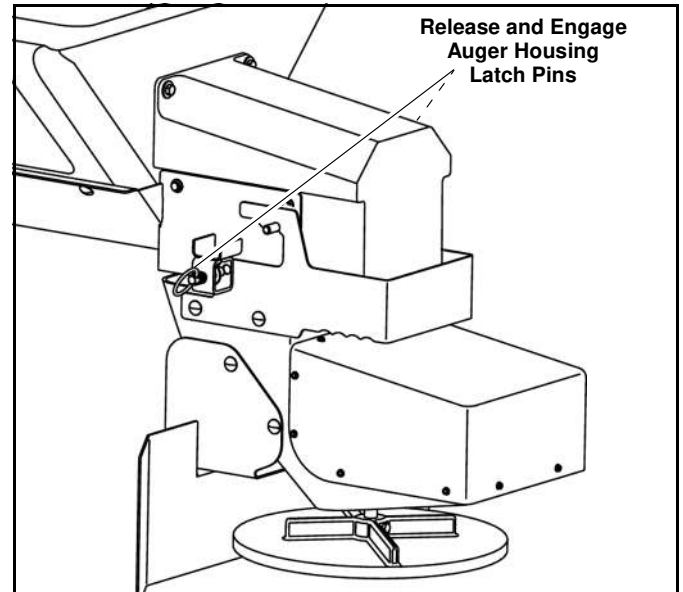

Figure 1-18
2. As the lower anchor holes align with the auger motor housing pins, pull each pin out and rotate clockwise to disengage the detent. Rotate each pin slightly as it engages the lower anchor holes on the chute spinner assembly. (See Figure 1-18).